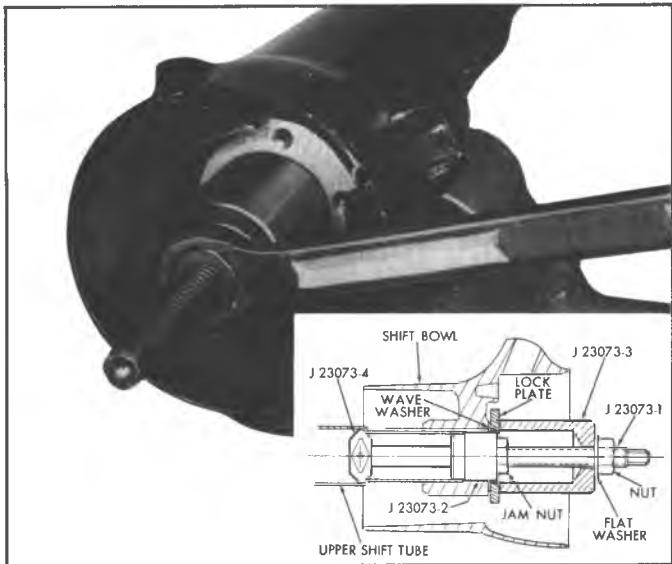

Fig. 81—Installing Shift Tube
12. Assemble the bearing housing over the steering shaft and engage the rack over the end of the actuator rod (fig. 81).